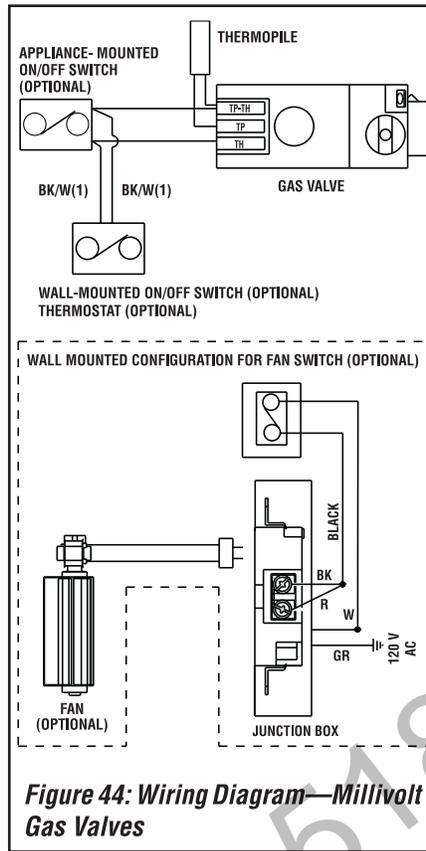

Figure 44: Wiring Diagram—Millivolt Gas Valves
A. Millivolt Wiring (see Figure 44)